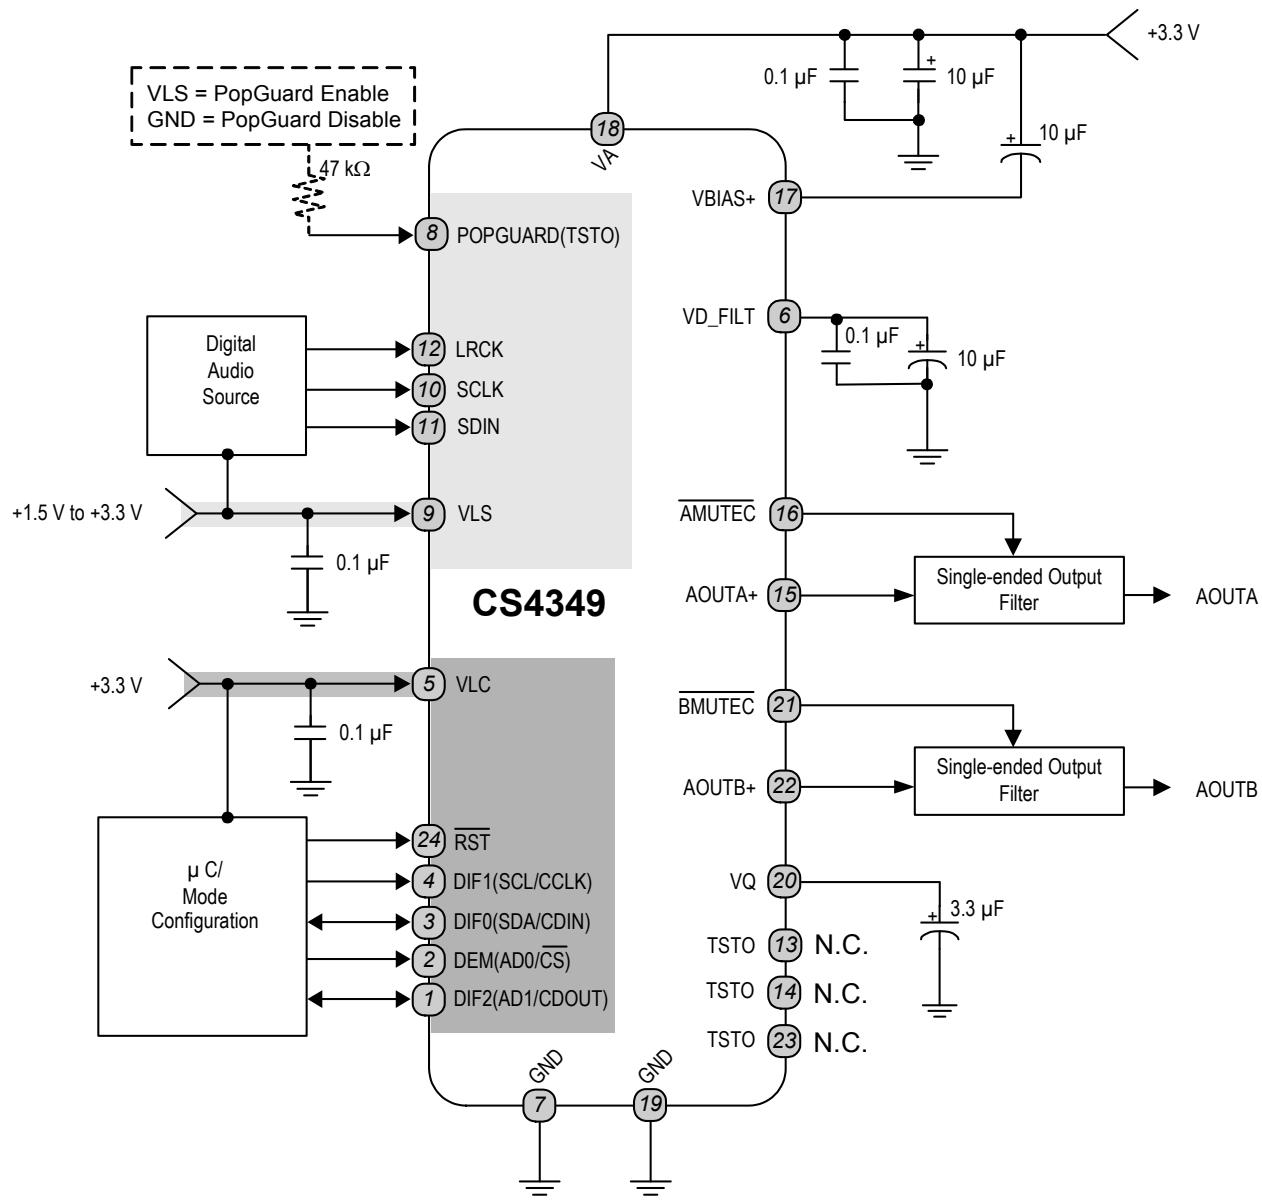

Figure 10. Typical Connection Diagram
- 16. Valid with the recommended capacitor values on VFILT, VQ, and VBIAS+ as shown in the typical connection diagram in Figure 10.
As with any high-resolution converter, the CS4349 requires careful attention to power supply and grounding arrangements if its potential performance is to be realized. Figure 10 shows the recommended power arrangements, with VA, VLC, and VLS connected to clean supplies. The use of split analog and digital ground planes is not recommended. However, if planes are split between digital ground and analog ground, the GND pins of the CS4349 should be connected to the analog ground plane.